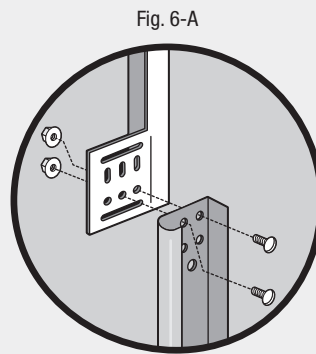

Fig. 6-A
- Align top two holes on each track with two inner holes on bottom of flag brackets and loosely attach using (2) 1/4"-20 × 9/16" track bolts and 1/4" flange nuts. The head of the bolts should face the inside of the track (Fig. 6-A).